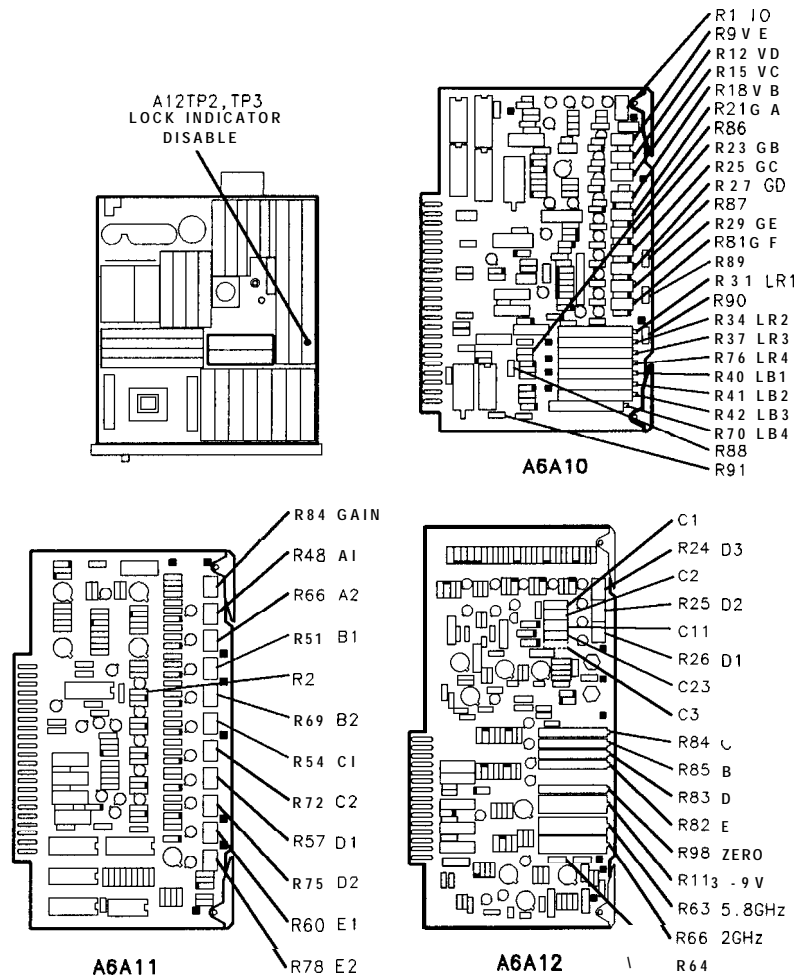

Figure 3-90. Location of Frequency Response Adjustments
2. Connect a jumper between A12TP2 to A12TP3 (LOCK INDICATOR DISABLE) on the A12 Front Panel Interface Assembly in the RF Section. See Figure 3-90 for the location of A12TP2 and A12TP3.
3. In the RF Section, disconnect cable 84 (gray/yellow) from **A6A12J1** and cable 82 (gray/red) from **A6A12J2**. Remove the cover from the A6 RF Module, and then reconnect cable 84 (gray/yellow) to **A6A12J1** and cable 82 (gray/red) to **A6A12J2**. See Figure 3-90 for the location of the **A6A12** YTX Driver Assembly and the A6 RF Module.
10. Disconnect cable 81 (gray/brown) **W1** from **A6A3J3** (21.4 MHz OUT) on the **A6A3** Last Converter Assembly. Disconnect the power sensor from the low-loss microwave test cable, and connect the test cable to cable 81 (gray/brown) **W1** using an SMB (m) to SMA (f) adapter. See Figure 3-90 for the location of **A6A3J3** (21.4 MHz OUT).
13. Connect the DVM to **A6A10TP1**, and connect the DVM ground to **A6A10TP2**. See Figure 3-90 for the location of **A6A10TP1** and **A6A10TP2**.
14. Adjust **A6A10R1** IO (3.3 GHz Oscillator Drive, to IE on **A6A4** Second Converter) for a DVM indication of -0.15 ±0.01 Vdc. See Figure 3-90 for the location of **A6A10R1**.
15. Connect the DVM to **A6A12TP3** (-9 V), and connect the DVM ground to **A6A12TP2** (YTX COM) in the RF Section. See Figure 3-90 for the location of **A6A12TP3** and **A6A12TP2**.
16. Adjust 17-turn potentiometer A6A12R113 -9 V for a DVM indication of -9.000 fO.OO1 Vdc. See Figure 3-90 for the location of A6A12R113.
19. Adjust 25-turn potentiometer A6A12R98 ZERO for a DVM indication of 0.000 fO.OO1 Vdc. See Figure 3-90 for the location of A6A12R98.
Then, adjust **A6A11R84 GAIN** fully clockwise for maximum RF gain. See Figure 3-90 for the locations of **A6A11R48 A1**, **A6A11R66 A2**, and **A6A11R84 GAIN**.
If necessary, change the value of factory-select component **A6A10R2** to shift the Band A frequency breakpoint determining the adjustment ranges of **A6A11R48 A1** and **A6A11R66 A2**. A decrease in the value of **A6A10R2** shifts the Band A frequency breakpoint higher in frequency, widening the Band A Lower Segment and narrowing the Band A Upper Segment. Conversely, an increase in the value of **A6A10R2** shifts the Band A frequency breakpoint lower in frequency. See Table 3-3 for the acceptable range of values for **A6A10R2**, and Table 3-4 for HP part numbers. See Figure 3-90 for the location of **A6A10R2**.